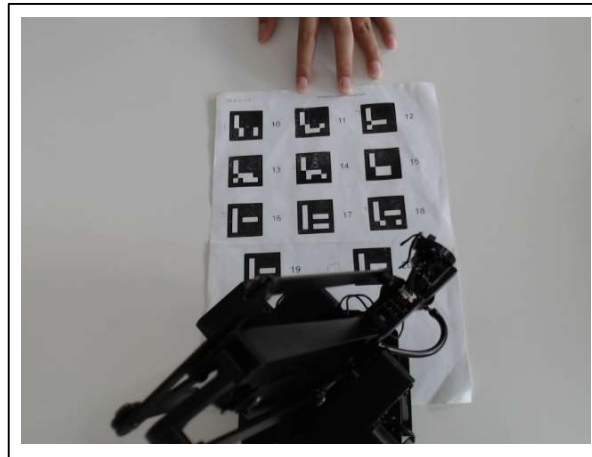

Figure 8. ArUco Board Position
- After calibrating the camera, we have to do one more step: detect every marker in the ArUco board. This step is also important to find the Marker ID, coordinate and translation vector for every marker. Before we take marker coordinates, we have to place the ArUco board in front of the robot, like in *Figure 8*. **You must ensure that all the marker is in the frame and not cut off or blocked.**